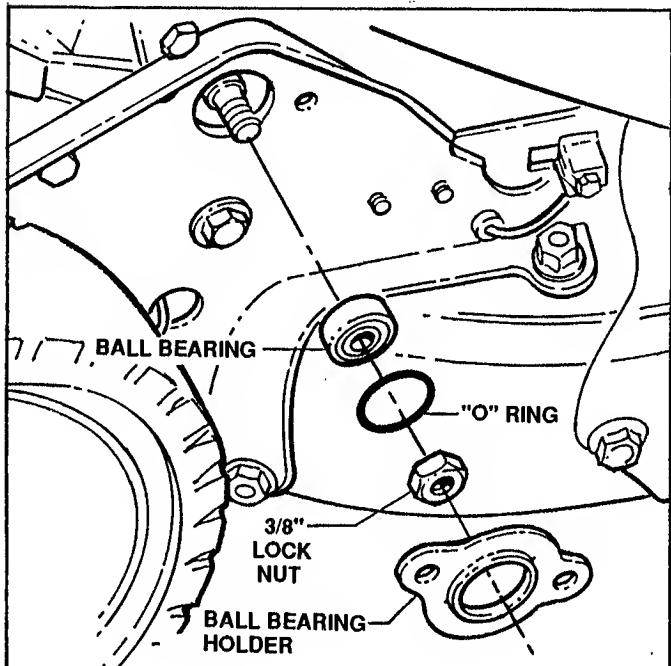

FIGURE 3.19
- Remove the 3/8" hex lock nut which is located on the outside of the right wheel bracket. See Figure 3.19.